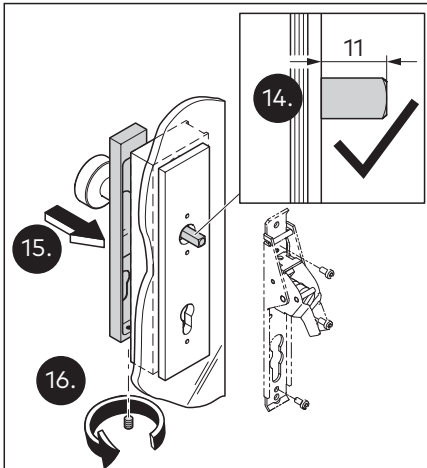

Fig. 27 Fixing the cover to the base plate
14. Ensure that the square spindle extends beyond the screw-on plate by max. 11 mm for installation of a panic door fitting (Fig. 27).